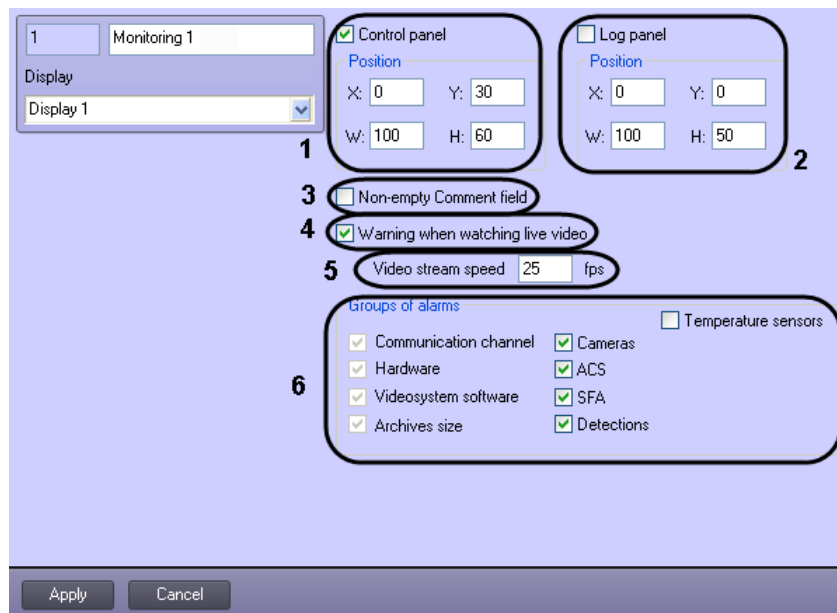

Fig. 5.2 – 1 Configuring the Monitoring interface object
1. In the object tree, select the **Monitoring** object. On the right side of the **System settings** dialog box, the configuration panel for the relevant object is displayed (Fig. 5.2 – 1).
2. If it is necessary to display the **Control Panel** component on the screen, select the **Control Panel** check box and indicate the on-screen coordinates of the component (see Fig. 5.2 – 1, 1).
3. If it is necessary to display the **Log Panel** component on the screen, select the **Log Panel** check box and indicate the on-screen coordinates of the component (see Fig. 5.2 – 1, 2).